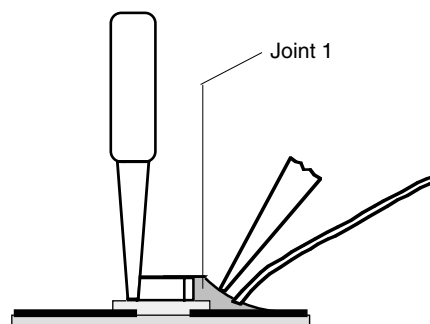

Fig. 4
4. step: Place the CHIP onto the soldering point, then center and fix it (Fig. 4).